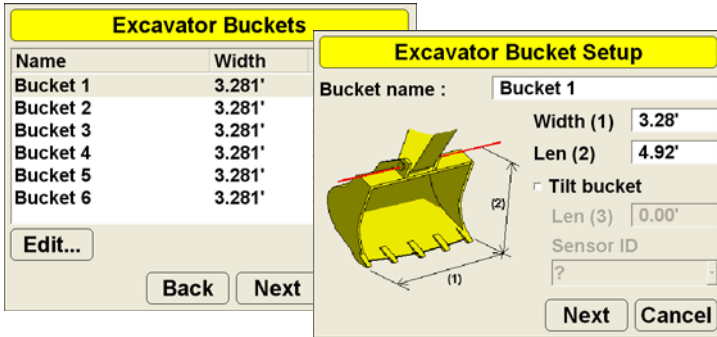

Figure A-21. Edit Bucket Measurements
5. Press Edit and enter the bucket width and length; change the name if desired. Press Next (Figure A-21 on page A-22).